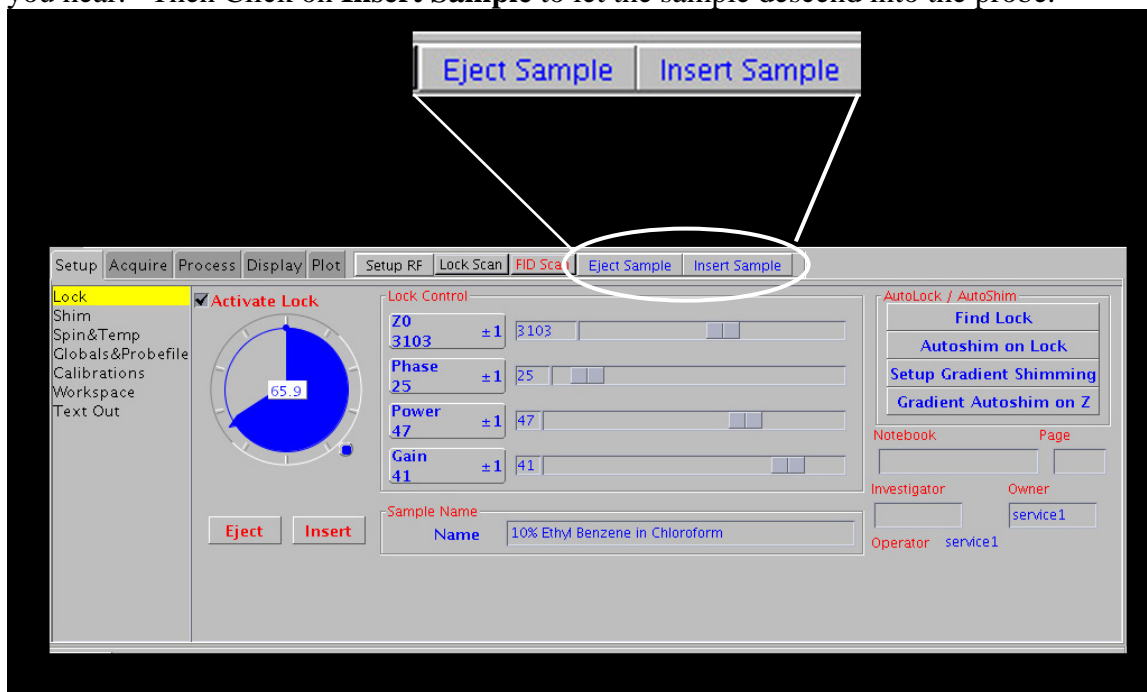

Figure 10
- Clicking on **Acquisition Action (Figure 10)** then select **Abort Acquisition** from the drop down menu.